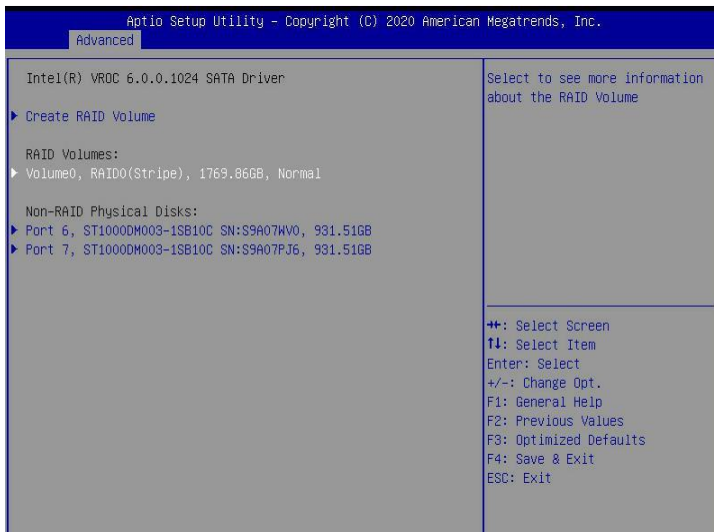

Figure 6-11
- b) As shown in Figure 6-11, select the RAID to be deleted in the RAID Volumes directory and press Enter.
❖ Figure 6-11 Select the RAID to be deleted